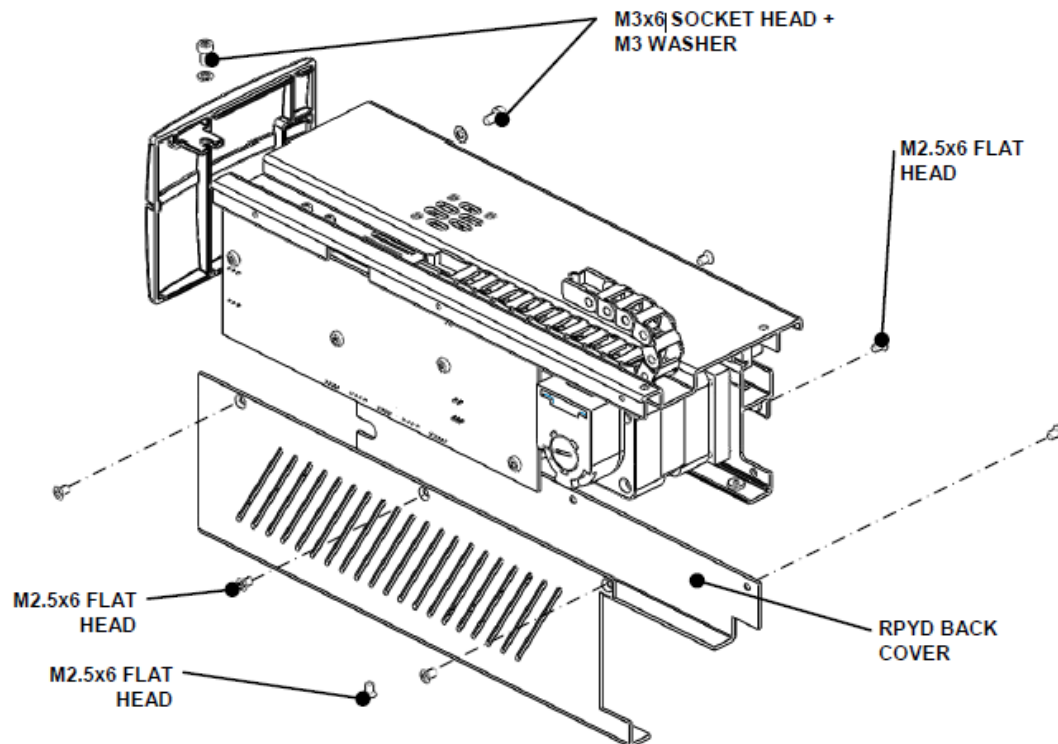

Figure P-1: Removing the Covers of the Y Drive
1. Remove the Reagent Pipette Y Drive Back Cover by unscrewing the seven M2.5x6 Flat Head Screws (Figure P-1). When replacing the cover, use Loctite 222.
To remove the Y drive printed circuit board, disconnect all electrical components, including the flex cable, then remove the four M3x6 Socket Button Head Screws as shown in Figure P-1.